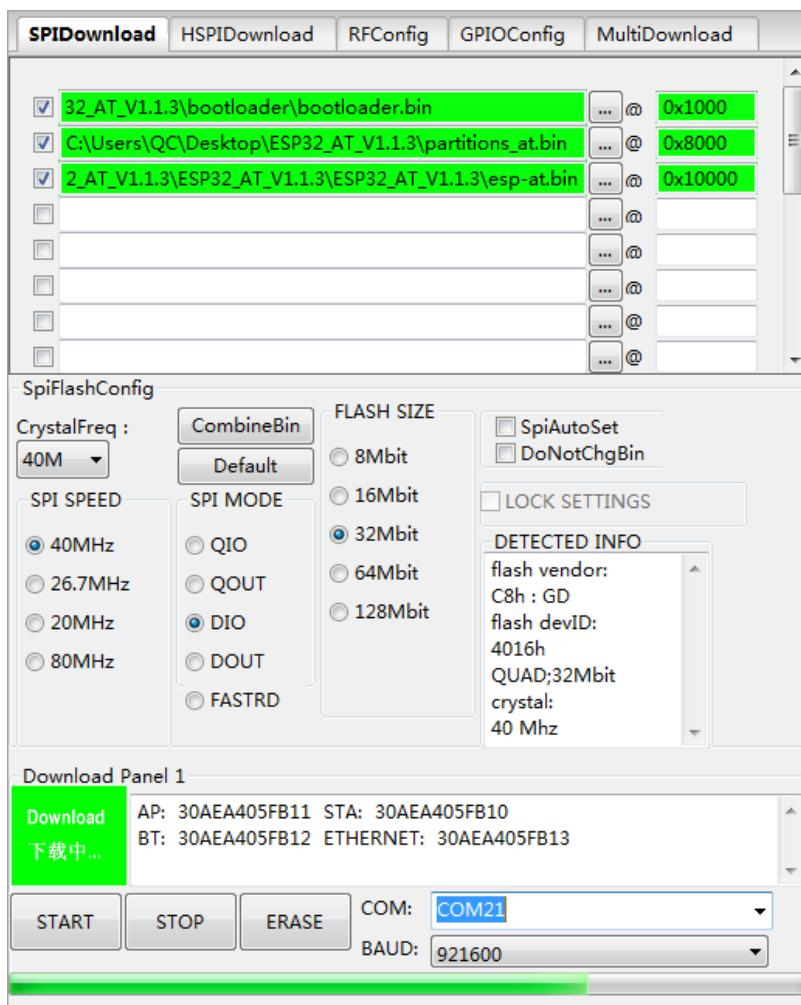

Figure 4-3. Downloading
3. Click **START** to start the download process. While downloading, the tool reads the flash information and MAC address of the product, as shown in Figure 4-3.